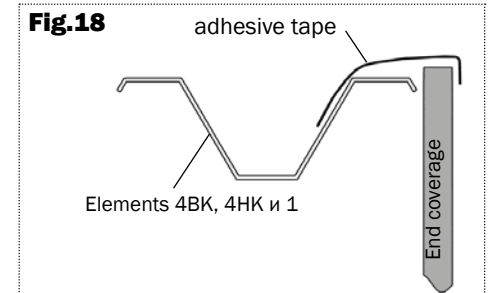

Fig.18
- Trim with a knife the pieces of the coating in the arcs 4n and 4BK and parts 1, and then close the resulting cut adhesive tape in accordance with fig.18